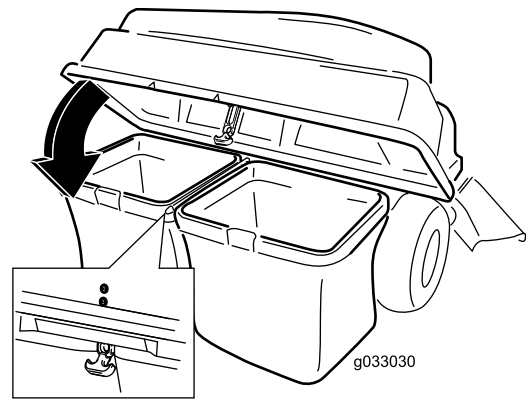

Figure 25
8. Lower the bagger top onto the bags (Figure 25).
9. Secure the hood with the latch (Figure 25).